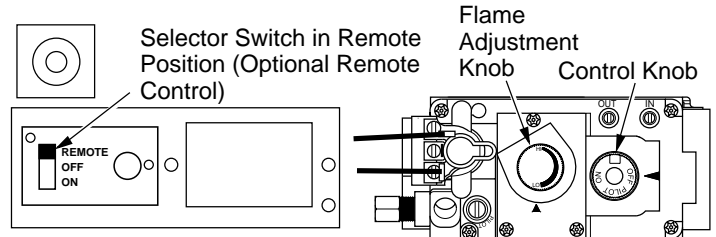

Figure 42- Setting the Selector Switch, Control Knob and Flame Adjustment Knob for Remote Operation
1. After lighting, let pilot flame burn for about one minute. Turn control knob to ON position. Adjust flame adjustment knob anywhere between HI and LO. Slide the selector switch to the REMOTE position (see Figure 42). **Note:** The burner may light if hand-held remote was on when selector switch was last turned off. You can now turn the burner on and off with the hand-held remote control unit.